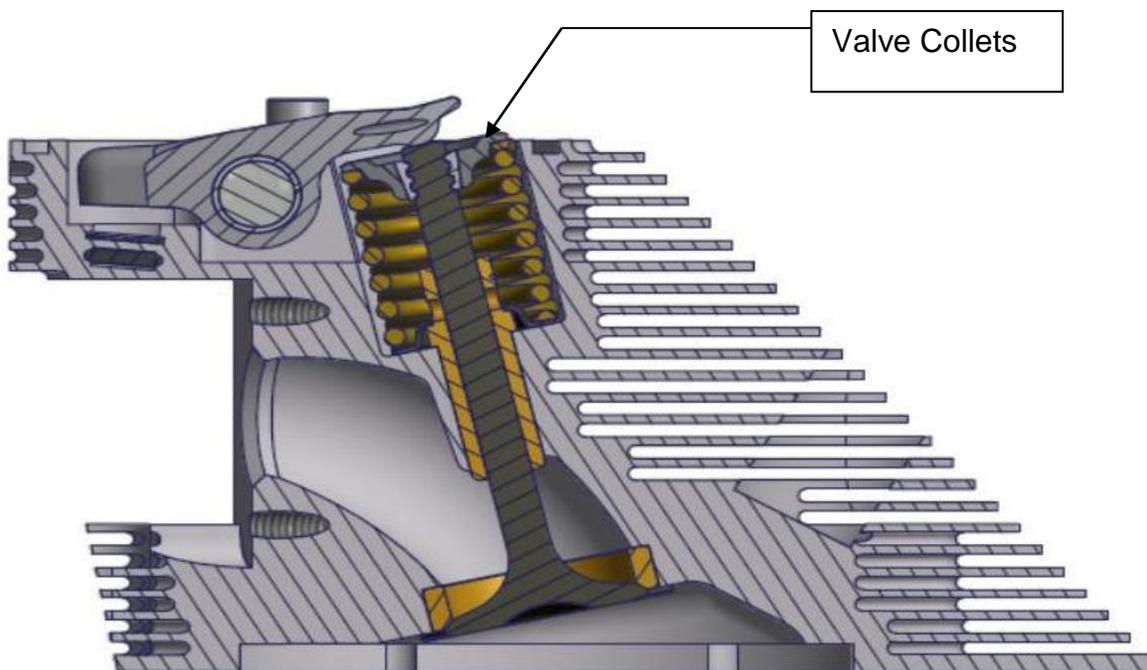

Figure 1 – Valve & Spring Cross Section
- Jabiru Engines use a conventional arrangement of washers and collets to retain the valve spring assemblies (Figure 1).